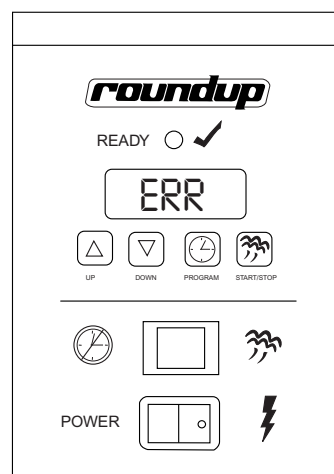

Figure 9. “ERR” Fault Code
NOTE: Pressing and holding the operate button for longer than 1 second at a time, and/or too often (before 20 seconds), will flood out the generator surface (Figure 9) and result in poor steaming.
3. Remove the Spray Tube (Figure 9) by lifting the loose end and pulling it out of the generator hole.